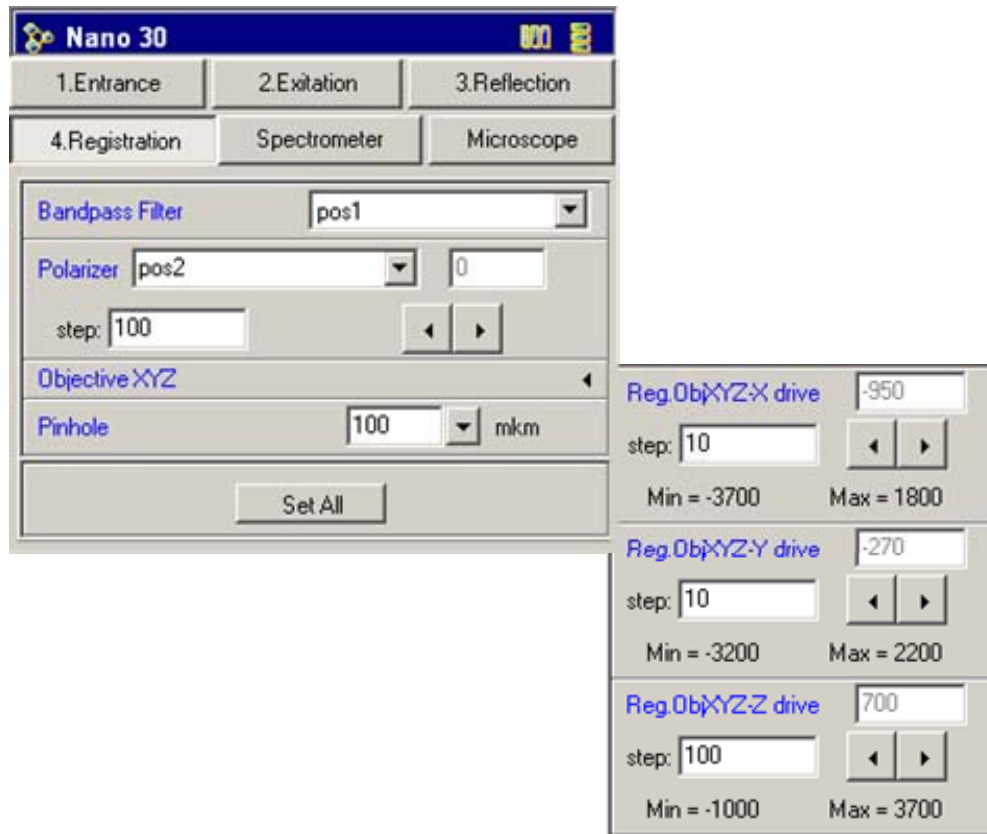

Fig. 12-16. **Registration** tab with the **Objective XYZ** window opened
- b. Click the **▶** button in the **Objective XYZ** field. This opens an additional window (Fig. 12-16).
with the   buttons in the groups **Reg.ObjXYZ-X drive** and **Reg.ObjXYZ-Y drive** (Fig. 12-16) to obtain reversal of the signal to the level already achieved.